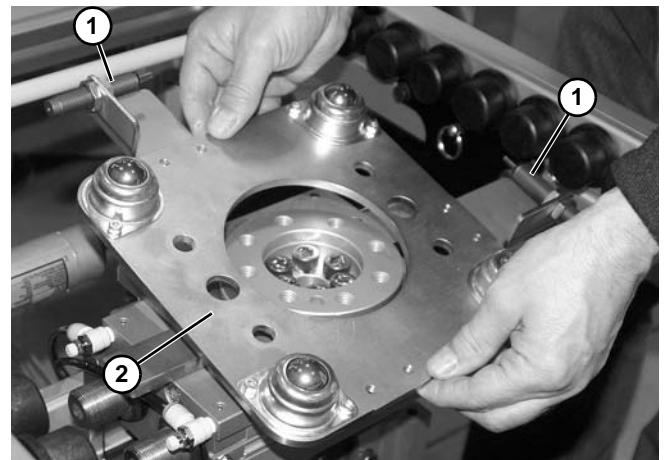

Figure 105
Be sure to make note of the stop sensors (Figure 105, item 1) on the plate in relation to the conveyor. This will be an aid when reinstalling.
9. Remove plate (Figure 105, item 2).